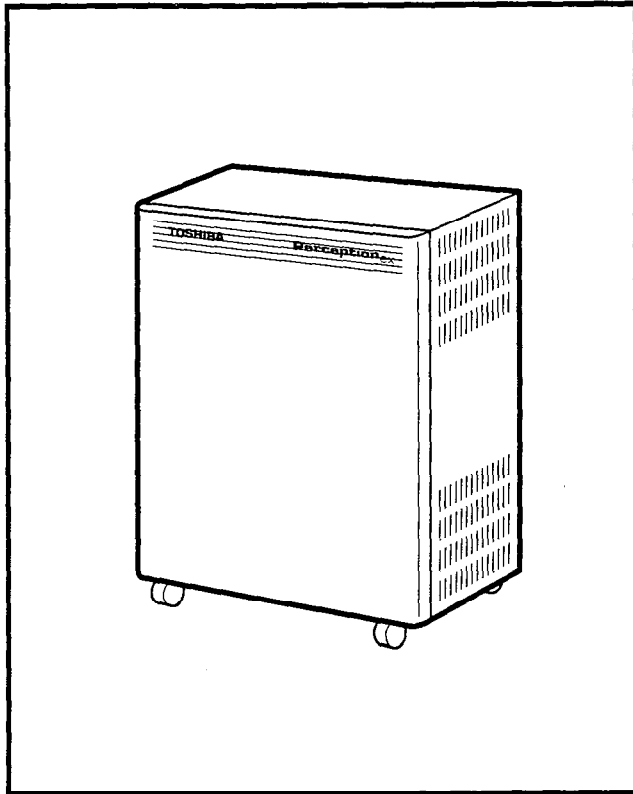

FIGURE 2-3—PERCEPTION_{ex} BASIC CABINET
2.01 The basic equipment cabinet (LCEC-M) is a single free-standing cabinet mounted on casters for easy movement. The cabinet contains three shelves for printed circuit card installation. A separate area is provided for power supply and peak load battery installation. MDF connections are facilitated by amphenol connectors located on the rear of the cabinet (Figure 2-3).